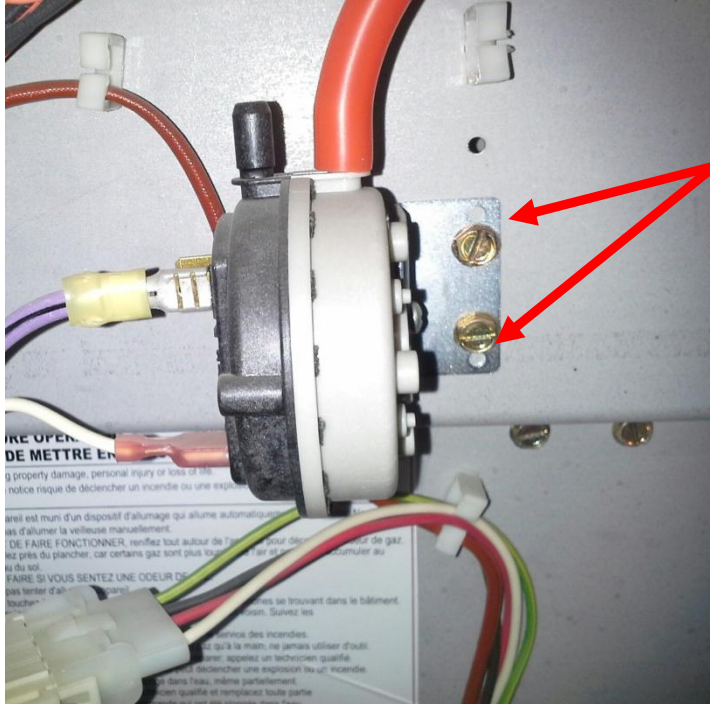

Figure 4
10. Remove the two (2x) 5/16" hex head screws that attaches the air pressure switch to the heater's alcove wall. (See **Figure 4**) The air pressure switch will be loose.
11. Cut the plastic wire tie that secures the air hose onto the air pressure switch's hose fitting. After the wire tie is removed, the hose will pull off the switch's hose fitting. (See **Figure 4**)
11. Remove the two violet/black stripe wires on the common push-on connector attached to the "NO" (normally open) post on the air pressure switch. (See **Figures 4 & 5**)
12. Remove the white/violet stripe wire that is connected onto the "C" (common) post on the air pressure switch. (See **Figures 4 & 5**)